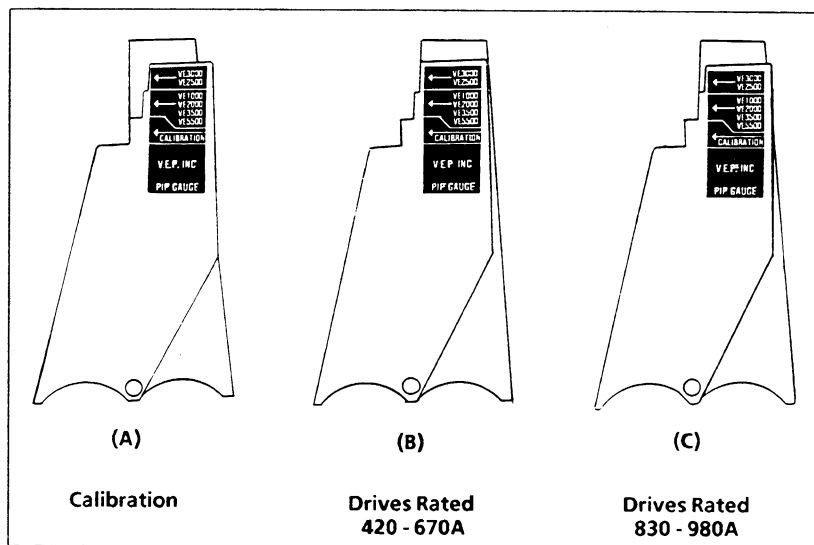

Figure 3 – PIP Gauge Settings
- 20. Locate the supplied PIP Gauge (13) and calibrate on a hard flat surface such as the base plate. The edges of the gauge should align as shown in Figure 3 (A).
- 21. Locate the Drive nameplate and obtain the rating for the DC Output Amps. Select the proper PIP gauge diagram in Figure 3.
Compare the gauge reading with the diagram shown in Figure 3. Tighten or loosen the clamp screws evenly until the proper gauge indication is achieved.